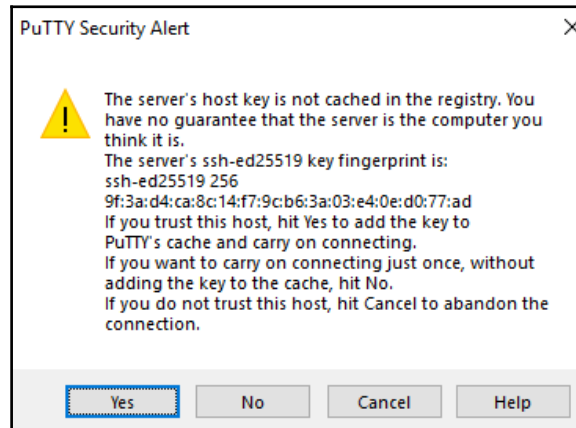

Figure 3.5
3. If you are connecting for the first time, a security warning will appear. Just click **Yes** as shown in *Figure 3.5*, as you are connecting to your own Pi and not a public computer that may harm your system: